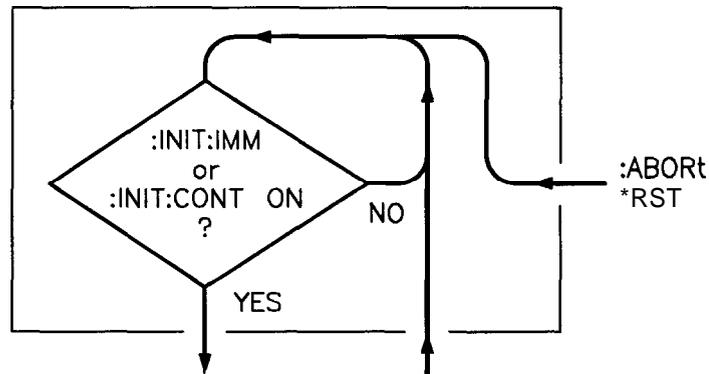

Figure 1-36. Inside the Idle State
**Inside the Idle State.** Figure 1-36 illustrates the operation of the *idle* state.